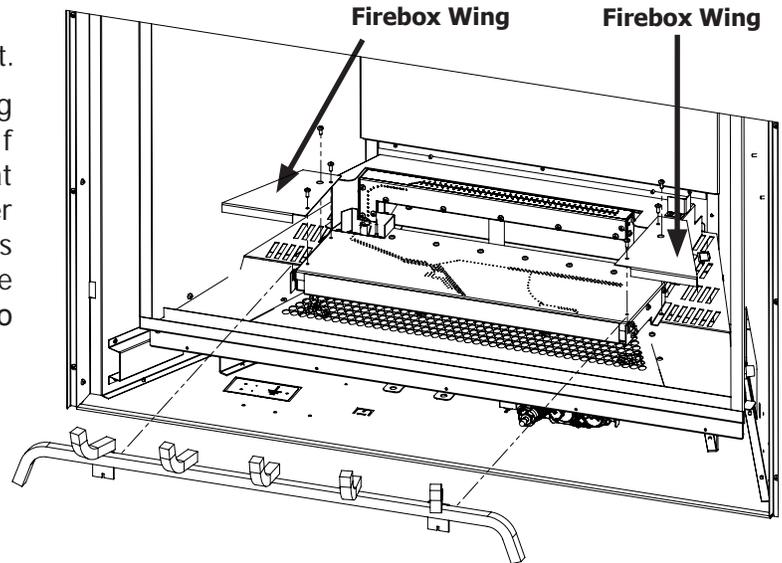

Figure 22. Front Burner Removal
6. Remove the two T-20 screws securing the front burner pan (see Figure 22). If needed, there are four T20 screws that fasten the Burner Wings to the burner that can be removed for easier access to the two lower T20 screws. Once the specified screws are removed lift up to remove.